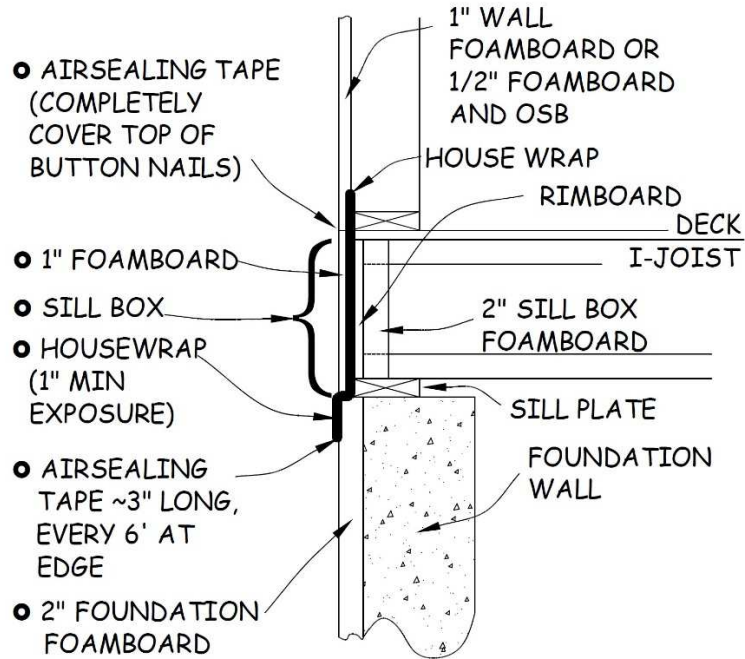

Figure 5-4. House Wrap and Foamboard Seams.
1. Measure and cut 1" foamboard to fit on the exterior of the sill box, **tightly** between the bottom of the wall foamboard and the foundation foamboard. Do the same below any OSB/½" foamboard wall panels. Install the foamboard with 2" button nails about 8" apart and 2" away from the top and bottom seams of the foamboard. Make sure the house wrap is **behind** this foamboard, leaving any extra wrap protruding from the seam between the bottom of the sill box foamboard and the top of the foundation foamboard (see Figure 5-4).
CAUTION: House wrap must extend at least 1" over the surface of the 2" foundation foamboard (see Figure 5-4). If it does not, see the Construction Supervisor.
- b. Continue taping other seams with air sealing tape **except for** the seam between the rim board foamboard and the foundation foamboard. **Do not tape the seam where the house wrap emerges from below the sill box foamboard.** Instead, tape the bottom of the house wrap to the foundation foamboard every 6' with a 3" piece of air sealing tape just to hold it down (see Figure 5-4).